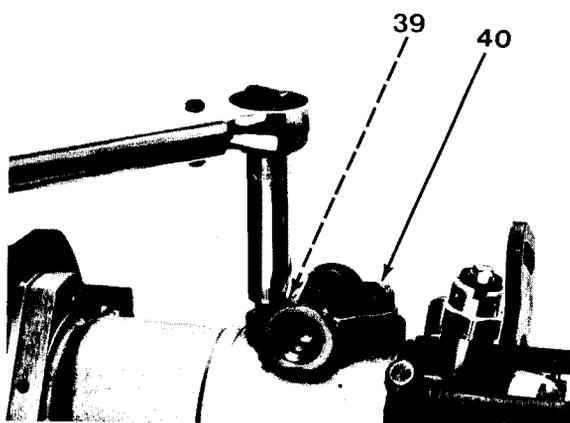
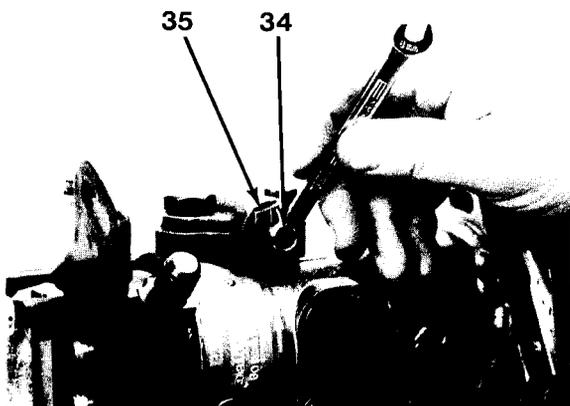

Figure 7-29
Figure 7-21
6. Install cap nut and sealing washer (39, Figure 7-29) onto timing housing.
7. Tighten cap nut (39) and locating fitting (40) alternately and evenly until a torque of 22 lb-ft (30 N•m) is obtained on cap nut (39) and a torque of 29 lb-ft (39 N•m) is obtained on locating fitting (40).
8. Install plug and washer (34) into spring cap (35, Figure 7-21).